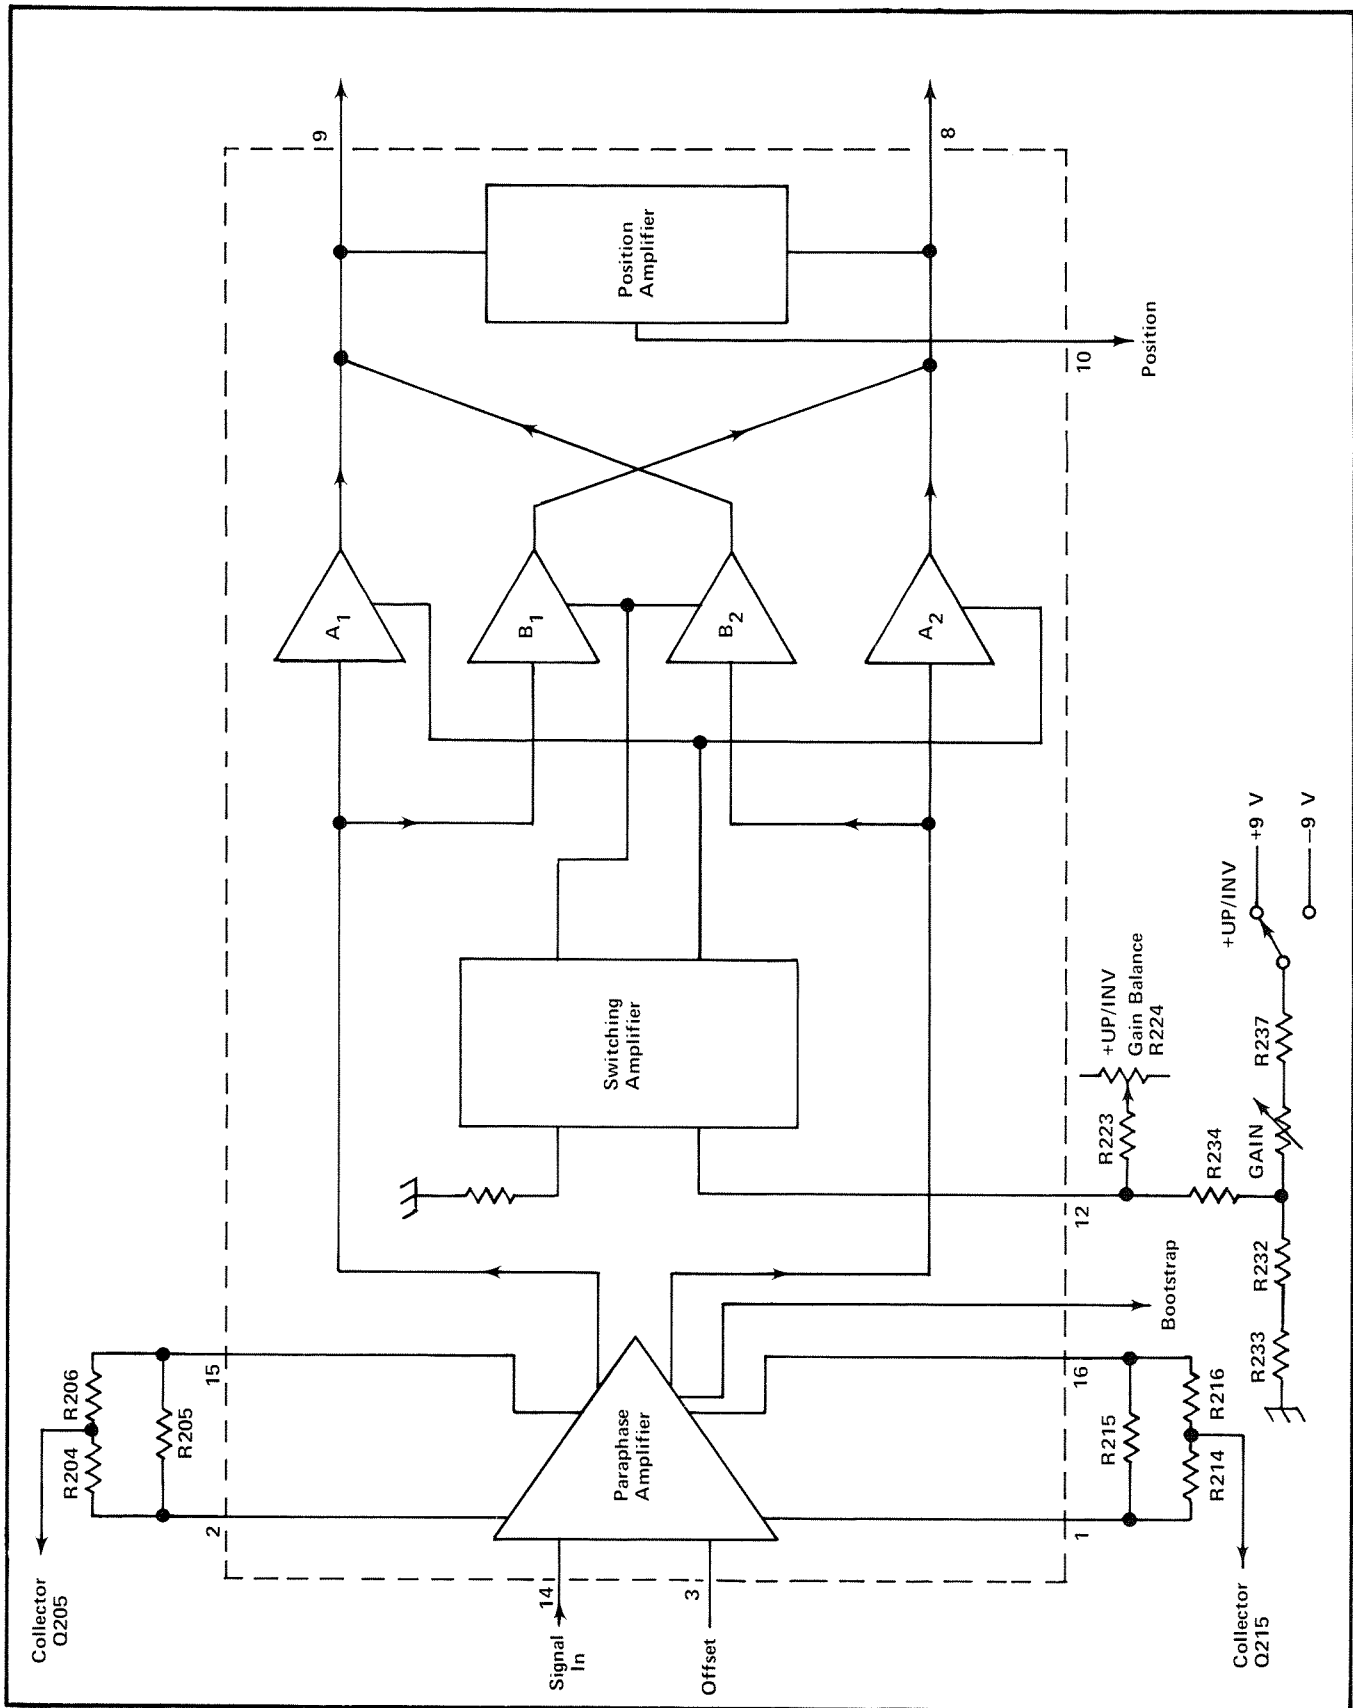

Fig. 3-1. Block representation of U225.
In addition to a balanced output, the generator provides a bootstrap voltage to the integrated circuit U225. This voltage maintains the quiescent operating parameters of the paraphase amplifier (see Fig. 3-1). Q32 is a constant current generator giving a fixed potential across R33. Therefore, in a balanced condition the potential between the signal out and the bootstrap out is kept constant.
The Tektronix-made integrated circuit (IC) U225 provides gain control, polarity switching, and vertical positioning. Refer to the block diagram in Fig. 3-1, keeping in mind that it is only a representation to be used in explaining the overall operation of the IC.
Bootstrap Amplifier (see circuit description for bootstrap). The resultant output of the Paraphase Amplifier is a DC compensated differential (push-pull) signal. This differential output is routed thru a pair of "steering" amplifiers labeled A1, A2, B1 and B2 on Fig. 3-1.